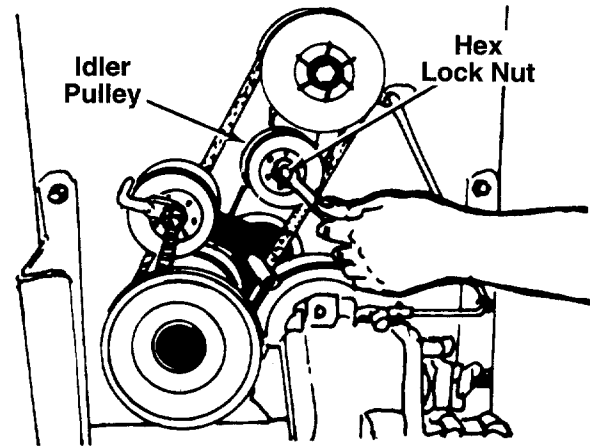

FIGURE 19.
8. Remove the idler pulley by removing the hex lock nut. See figure 19.